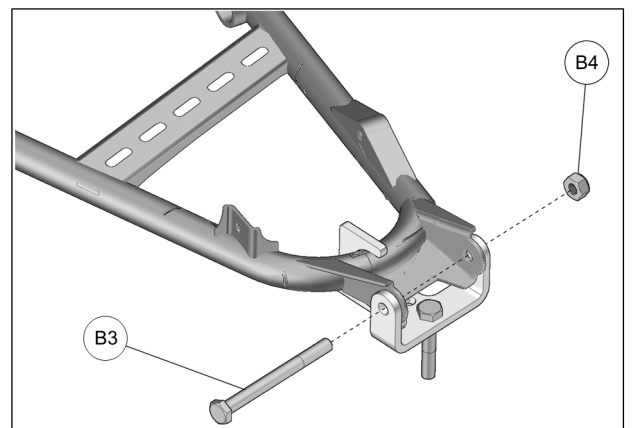

Fig. 9
8. Insert the new M10x110 mm bolt (**B3**) through the anchor bracket, lower suspension arm and wheel hub. Thread the M10 nut (**B4**) on the bolt. See Fig. 9